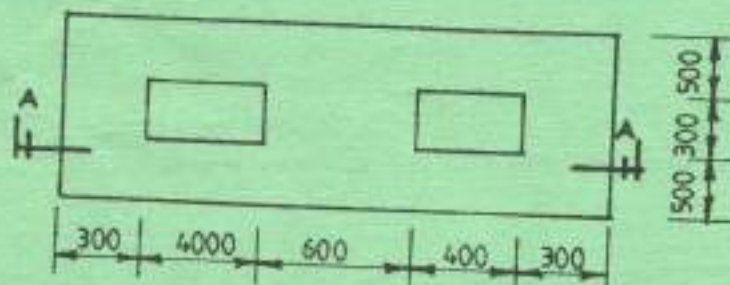

Fig. 4
- (b) **Figure 4** shows a combined column base for a one storey building. Using the data in **Table 2** and to a scale of 1:25, draw: